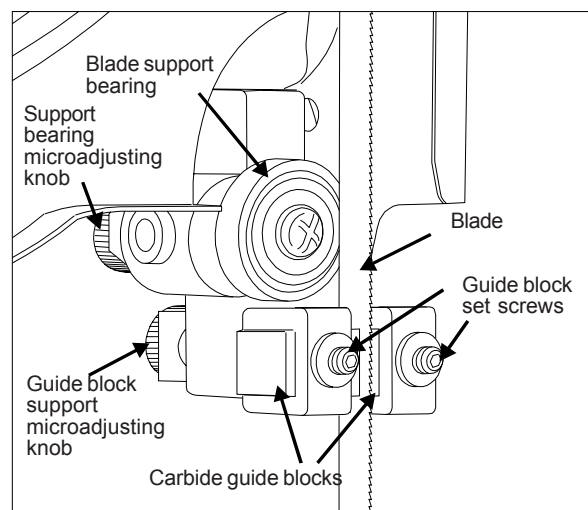

Figure 11. Upper Blade Guides
7. Using a hex wrench, loosen the set screw that locks the lower blade guide and support assembly. Move the assembly to the very rear of its travel by using the micro-adjusting knob on the back side of the assembly (refer to Figure 11).